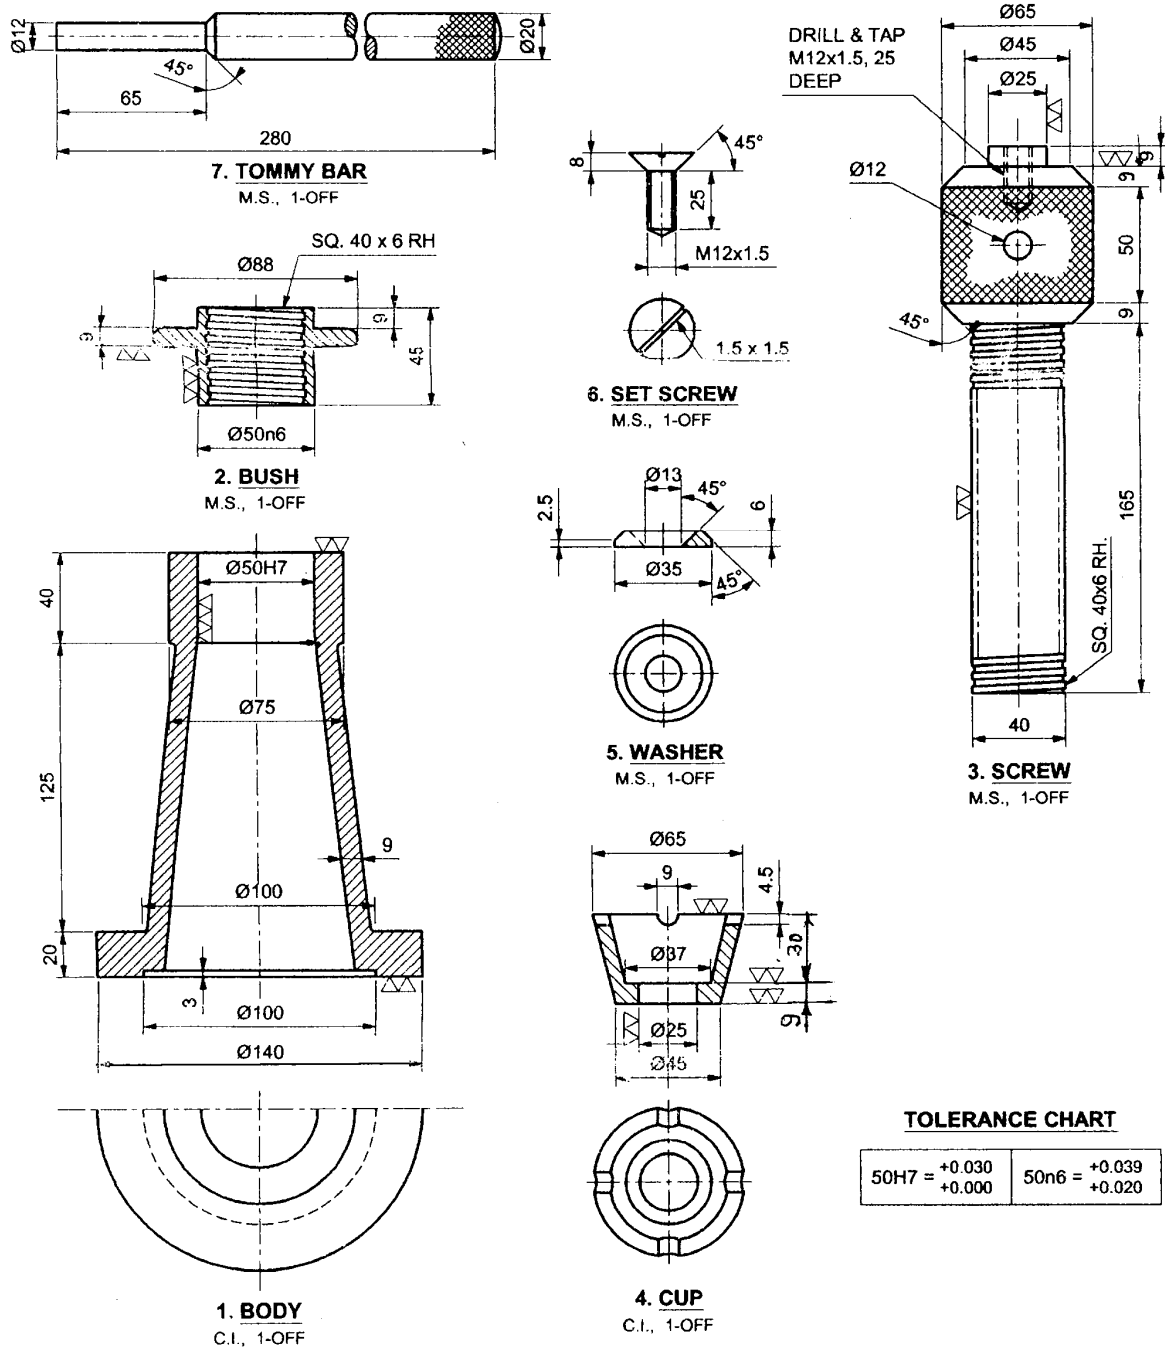

Fig. No. 5
- (a) Calculate the upper and lower limit of size 50 H7/n6 fit. State the type of fit. Refer Fig. No. 5 for tolerance values.